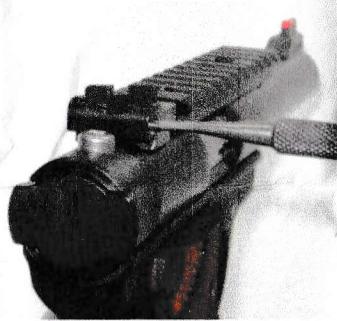

Fig. 2
- 2: Insert a 3/32 punch or similar implement into the hole the screw came out of and push to the left. This will compress the spring and relieve the tension on the original rear sight blade. Now move the rear sight blade slightly to the left and upwards until it comes free from the rear sight base. (See Fig. 2)